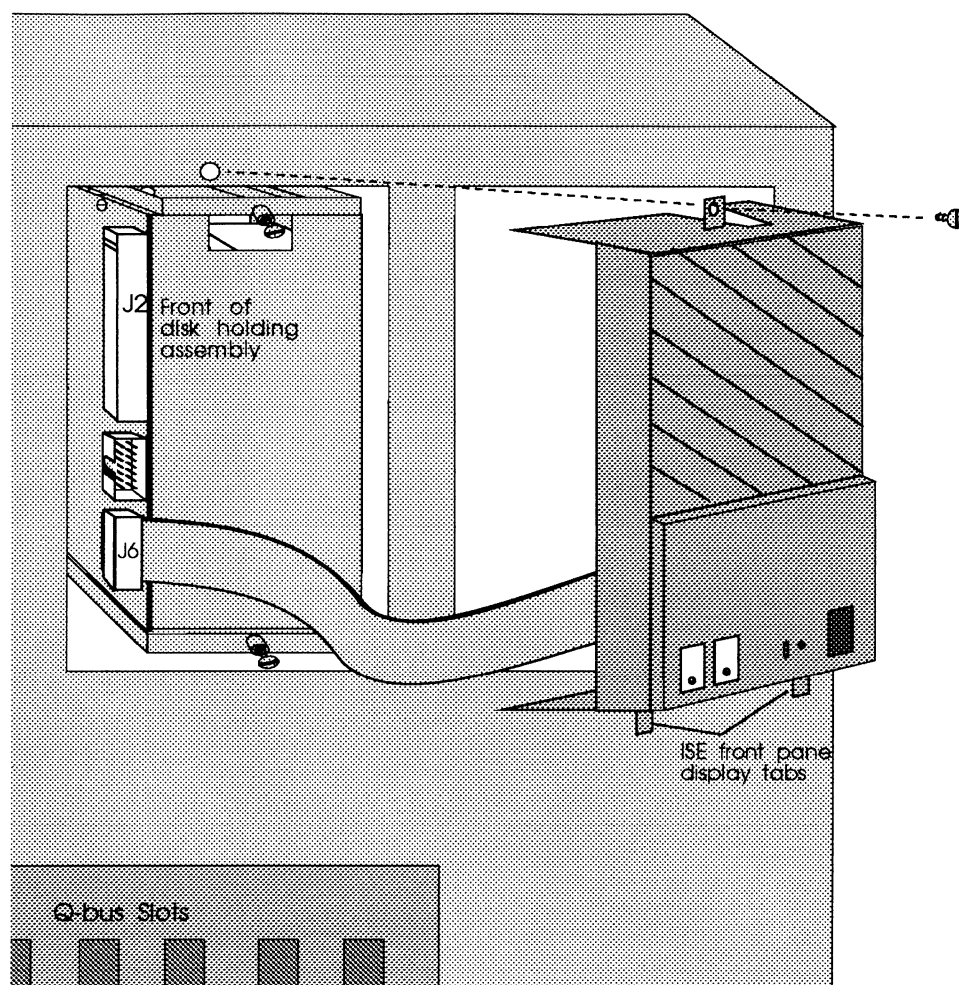

Figure 4-29: CDI-4000-SA2 ISE front panel installation
- 17 Align the back of the front panel display with the ISE assembly and slide the two tabs at the bottom of the ISE front panel display inside the system chassis; then slide the top into the system; see Figure 4-29.
- 18 Put one screw into the system chassis through the top hole in the ISE front panel display; see Figure 4-29.